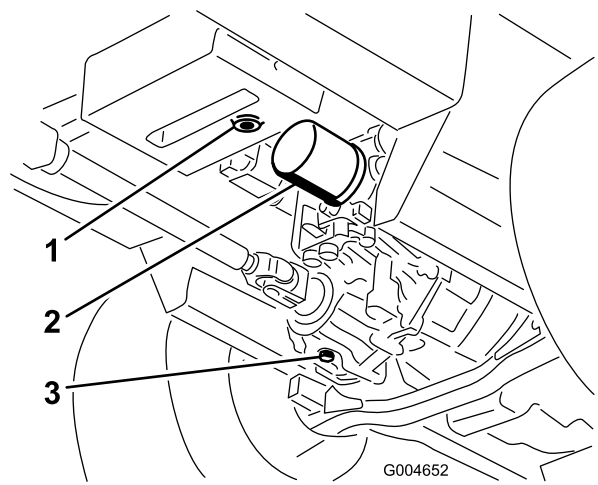

Figure 66
4. Clean the area around the hydraulic oil filter and remove it (Figure 66).
3. Place a large pan under the hydraulic reservoir and transmission case and remove the plugs, draining all of the hydraulic fluid (Figure 66).